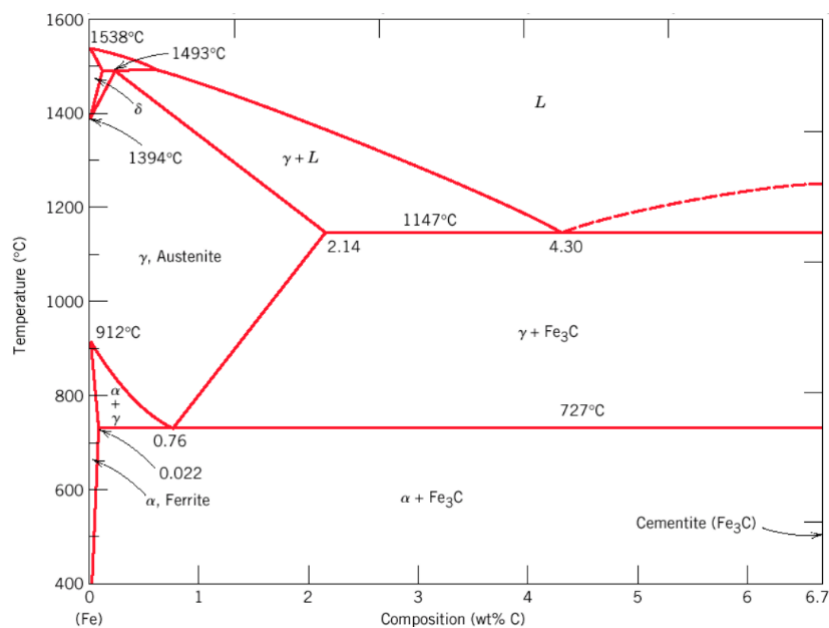

Figure 1: Fe-C phase diagram
- a) You have to characterize three different carbon steels, containing 0.3 wt.% C, 0.76 wt.% C and 1.2 wt.% C, which are heat-treated at 800 °C. Are they hypo- or hypereutectoid according to the binary Fe-C phase diagram shown in Figure 1? What phases will result after quenching?